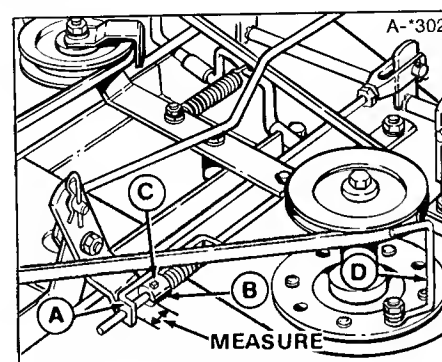
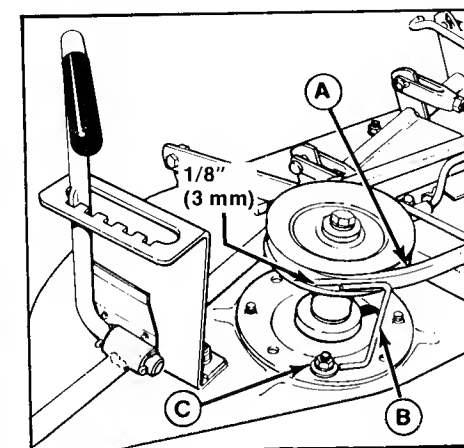

Figure 31. Drive Belt Tension
Figure 32. Right Arbor Belt Stop
mower in highest cutting position. Place the PTO lever in engaged position, the gap between the rod guide (A, figure 31) and the set collar (B) should measure $\frac{3}{8}$ to $\frac{1}{2}$ inch (10 to 13 mm). If not, disengage the PTO. Loosen the setscrew (C). Move the rod forward to increase the gap or back to decrease the gap then tighten the setscrew. Engage the PTO and recheck the adjustment. Readjust if necessary.
The arbor belt stops are item D in figure 31 and item B in figure 32. There should be $\frac{1}{8}$ inch (3 mm) clearance between the belt stops and belt when the PTO lever is engaged. If not, loosen the nut, move the belt stop and retighten the nut.